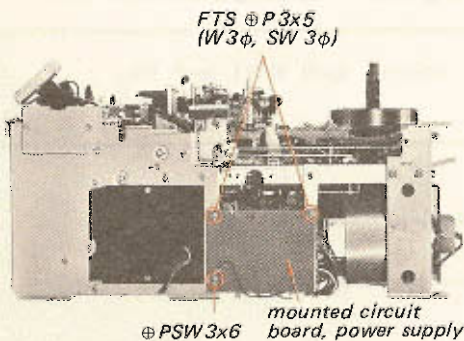

Fig. 2-3. Power supply circuit board removal
4. Power Supply Circuit Board (See Fig. 2-3.)